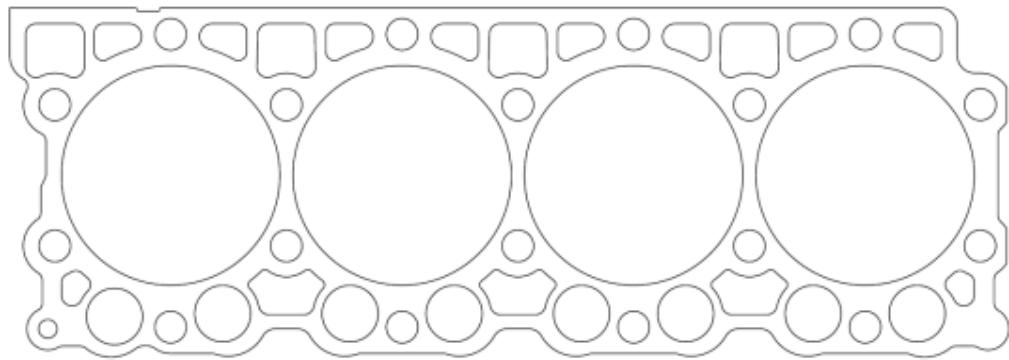

Figure 4-15 Cylinder head cover gasket
(2) Install the cylinder head cover gasket
- ① This gasket is only used once, if the repair is required, it must be replaced as shown in Figure 4-15.
- ② Clean the inner surface of the cylinder head cover, apply the lubricating oil layer, clean the surface then follow the corresponding hole to press gasket on the surface of the cover.
- ③ Check once again if the positions are installed correctly or not.